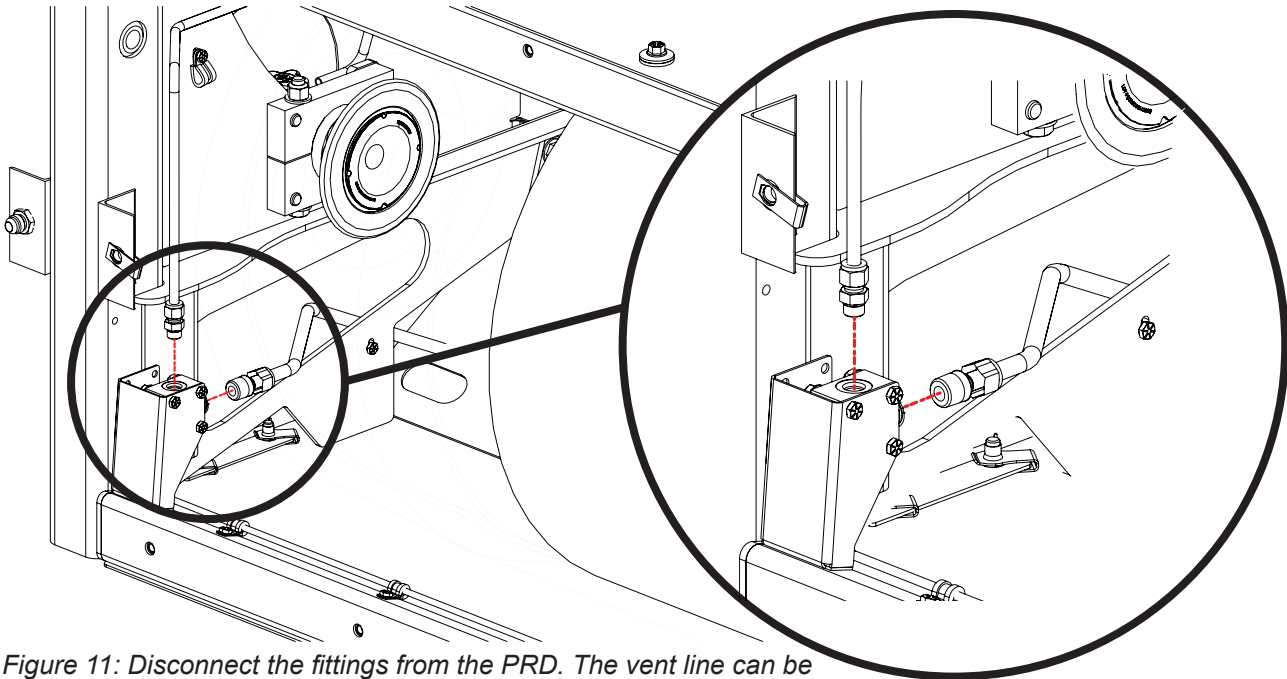

Figure 11: Disconnect the fittings from the PRD. The vent line can be removed from the assembly and set aside for later reconnection.
1. Disconnect the two fittings (feed fitting and vent fitting) from the PRD body (Figure 11). The vent fitting and the vent line can be removed from the assembly and set aside for reconnection. The feed line can dangle.